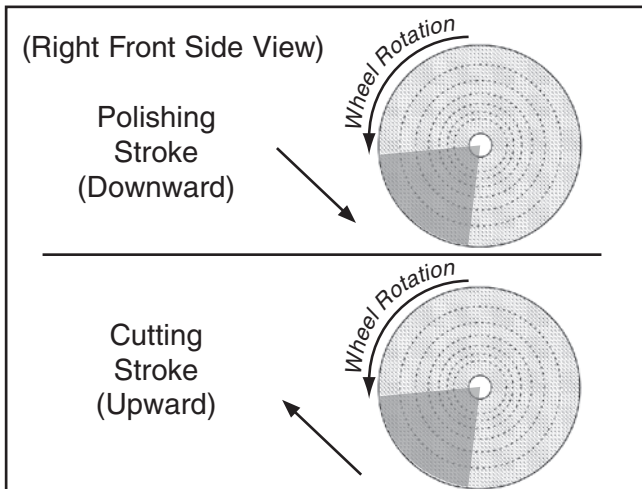

Figure 8. Cutting and polishing strokes.
- Always use an upward stroke with heavy to moderate pressure for cutting. Use a downward stroke with light pressure for polishing. See **Figure 8**.